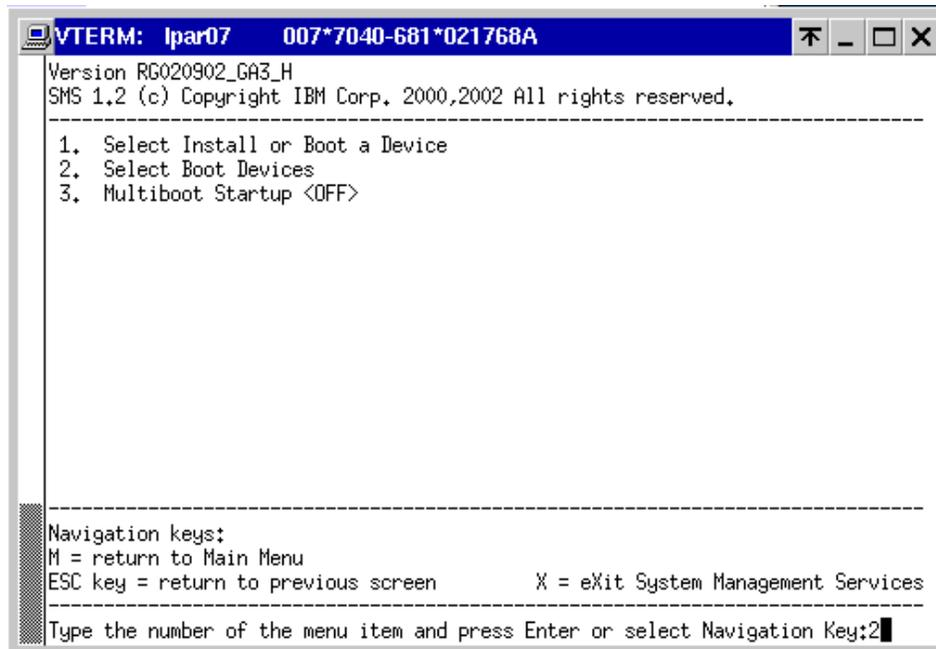

Figure 7-3 System Management Services: Select boot options
10. Press 2 to select **2. Select Boot Device**, as shown in Figure 7-3.